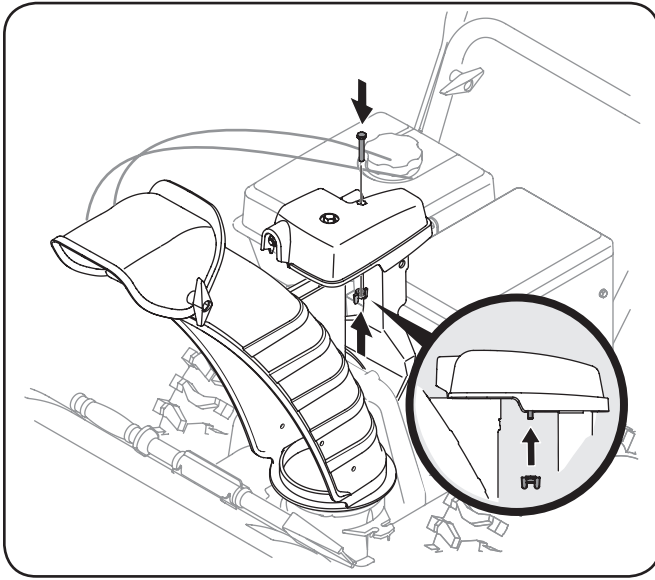

Figure 3-16
3. Finish securing chute control assembly to chute support bracket with wing nut and hex screw removed earlier. See Figure 3-16.